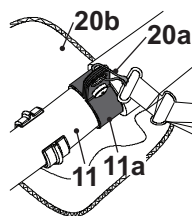

Fig. 15
- Lock the harness on the suspension sleeve (11a). Make sure the protection pad (20b) runs under the upper pole (11) (Fig. 15).